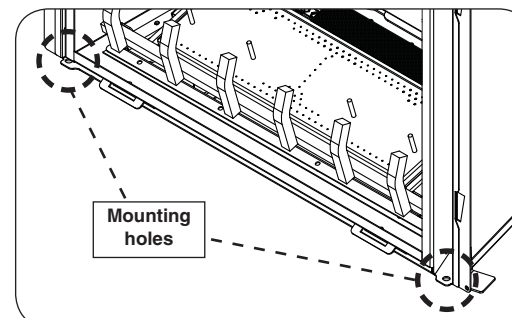

Fig. 38-4 Secure direct vent to fireplace floor
The unit has two $\frac{5}{16}$ " holes that are for the purpose of fastening the unit down in the fireplace (see Fig. 38-4). To fasten to the floor:
3. Locate the two $\frac{5}{16}$ " holes on the far left and right front floor of the direct vent. See Fig. 38-4.